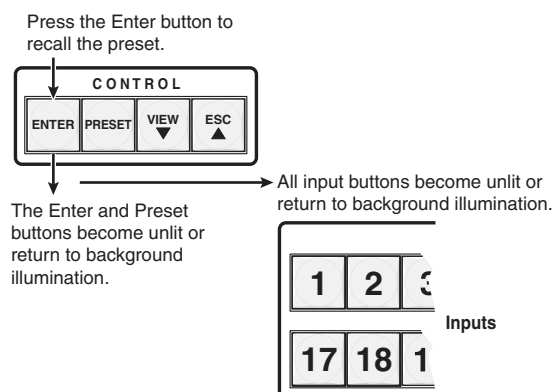

Figure 3-43 — Pressing Enter to recall the preset
4. Press and release the Enter button (figure 3-43). The configuration stored in selected memory location is now the current configuration and can be viewed in view-only mode (see *Viewing a configuration*, earlier in this chapter).